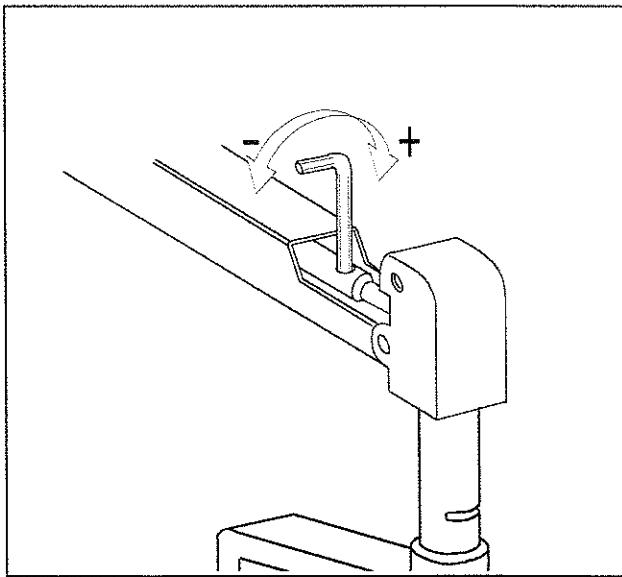

Figure 23 Second arm balancing - 2
- d) Fit an hexagonal pin (Allen Wrench pin with a diameter not exceeding 4 mm) into the holes of spring adjusting rod. Rotate pin clockwise if tubehead tends to fall; counterclockwise if moving upwards (see Figure 23 on page 41).